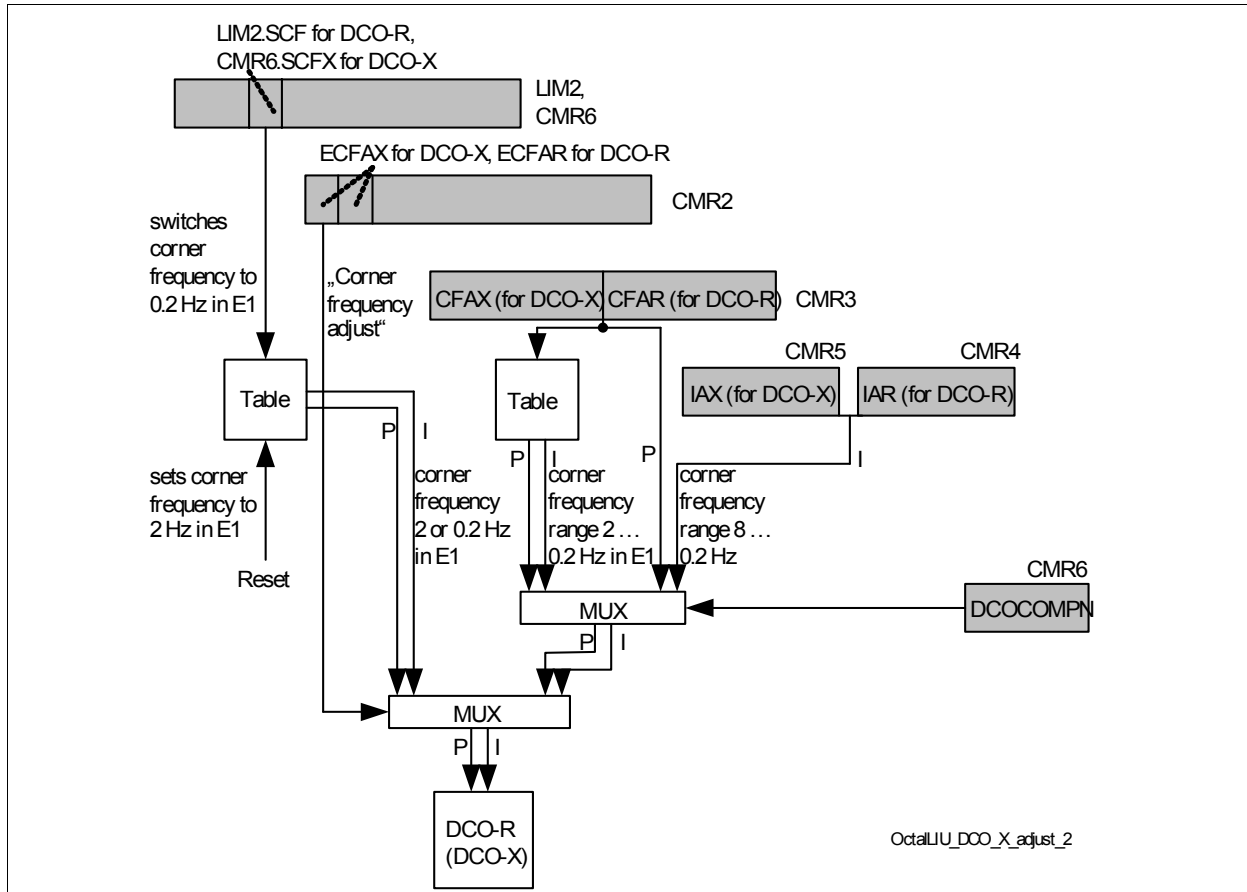

Figure 23 Principle of Configuring the DCO-R and DCO-X Corner Frequencies
The corner frequency of the DCO-R can be configured in a wide range, see Table 18 and Figure 23. The jitter attenuator PLL in the transmit path, so called as DCO-X, is equivalent to the DCO-R so that the principle for its configuring is the same.
After reset the corner frequencies are 2 Hz in E1 and 6 Hz in T1/J1 mode and can be switched to 0.2 Hz in E1 mode or 0.6 Hz in T1 mode by setting the register bit LIM2.SCF for the DCO-R or the register bit CMR5.SCFX for the DCO-X respectively. A logical table builds the integral (I) and proportional (P) parameter for the PI filter of the DCO-R or DCO-X, see Figure 23.